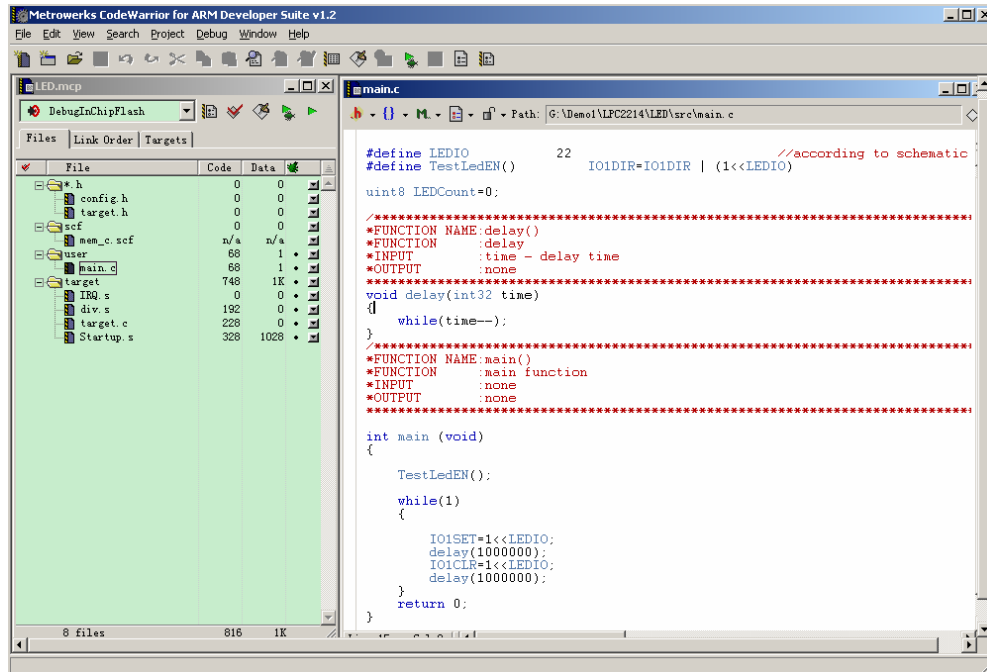

Figure 6 ADS user interface
- (6) Delete the folder LED\_Data, then open the project file LED.mcp as Figure 6 shows.